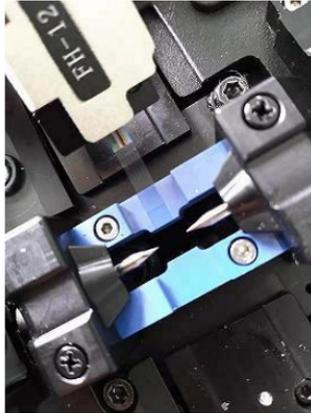

Figure 5.1 V groove cleaning I
1. Place the fiber with good endface into the V groove to remove the pollution, shown in figure 5.1.